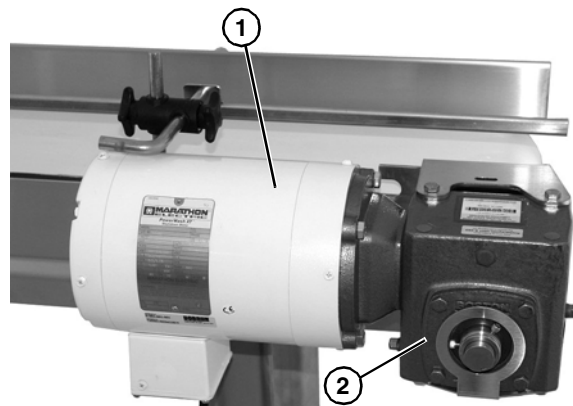

Figure 30
1. Attach the motor (Figure 30, item 1) to the gear reducer (Figure 30, item 2).